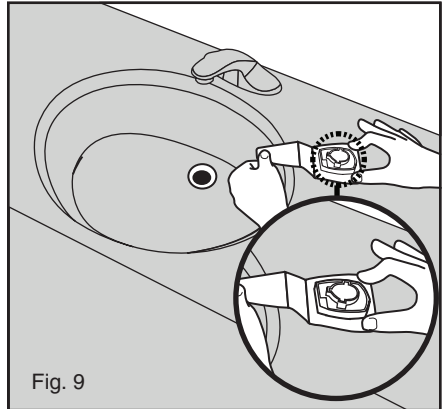

Fig. 9
- 10. Place the plastic template over the support shaft. Rotate the support shaft until the exact location of the soap discharge head is reached. Remove the template and discard (see figure 9).